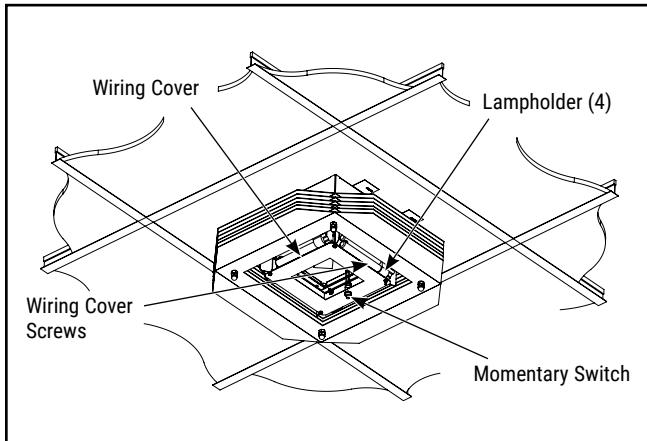

Figure 5.
2. Remove bottom plate and set it aside. This will reveal access to the lamp compartment. Notice four PL lampholders attached to specular reflectors. (See Figure 5)
3. Push the four Philips 9W TUV lamps into the lampholders ('click') while wearing gloves. (See Figure 5)